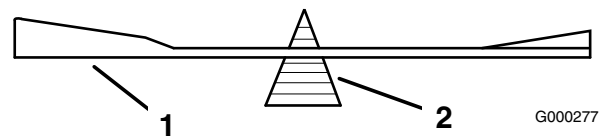

Figure 63
2. Check the balance of the blade by putting it on a blade balancer (Figure 63). If the blade stays in a horizontal position, the blade is balanced and can be used. If the blade is not balanced, file some metal off the end of the sail area only (Figure 60). Repeat this procedure until the blade is balanced.